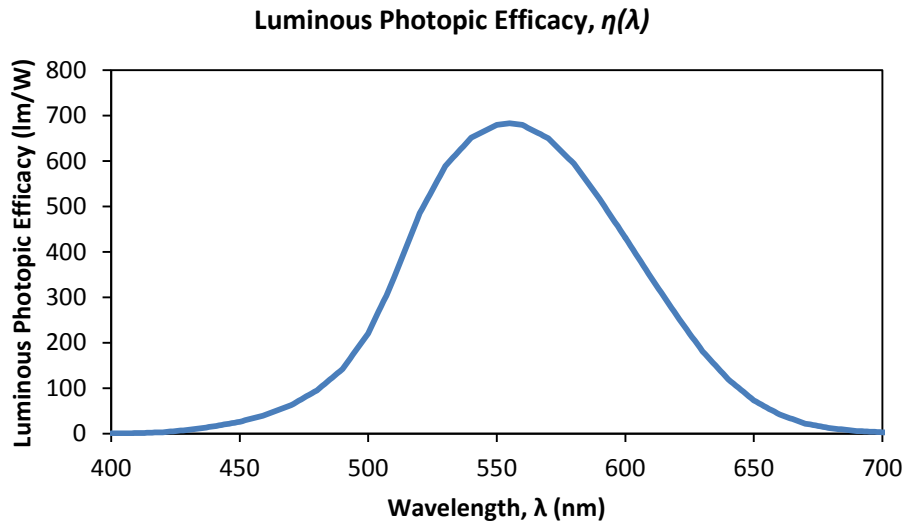

Figure 13: $\eta(\lambda)$ = CIE Luminous Efficacy Curve
- $R_{rad}(\lambda)$ is the spectral response of the photodiode (Figure 13)
$R_{rad}(\lambda)$ (Figure 13) was digitized from the TEMD5020 datasheet.